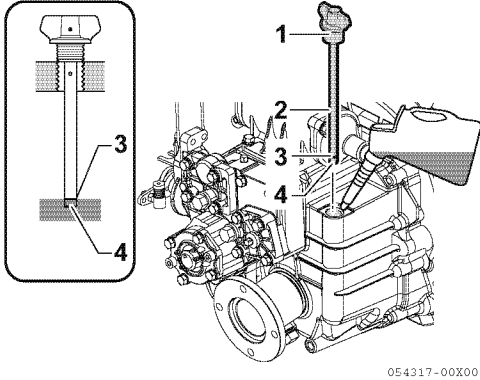

Figure 7
2. Remove the filler cap (**Figure 7, (1)**) at the top of the housing.
3. Remove dipstick (**Figure 7, (2)**) and wipe with clean cloth.
4. Re- insert the dipstick without screw in. See the illustration (**Figure 7**).
5. Remove dipstick. The oil level should be between upper (**Figure 7, (3)**) and lower (**Figure 7, (4)**) lines on the dipstick.
3. Fill with oil to the upper limit on the dipstick (**Figure 7, (3)**). See *Marine Gear Oil Specifications* on page 53.